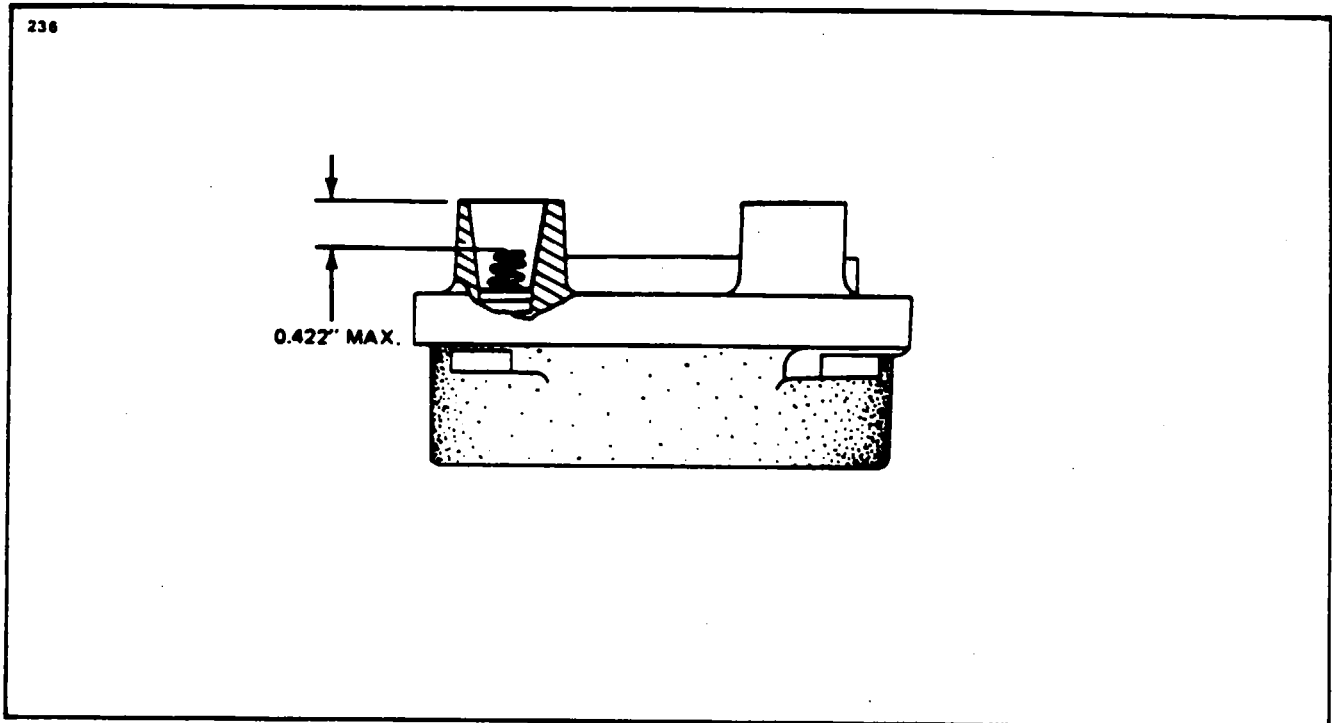

Figure 74-1. Height of Spring in Distributor Block Tower
6. Examine the contact points for excessive wear or burning. Figure 74-1 shows how the average contact point will look when surfaces are separated for inspection.
Desired contact surfaces have a dull gray, sand-blasted (almost rough) or frosted appearance, over the area where electrical contact is made. This means that points are worn in and mated to each other, thereby providing the best possible electrical contact and highest efficiency of performance. Minor irregularities or roughness of point surfaces are not harmful. (Refer to Figure 74-1, center.) Neither are small pits or mounds, if not too pronounced. If there is a possibility of pit becoming deep enough to penetrate pad (refer to Figure 74-1, right), reject contact assembly.